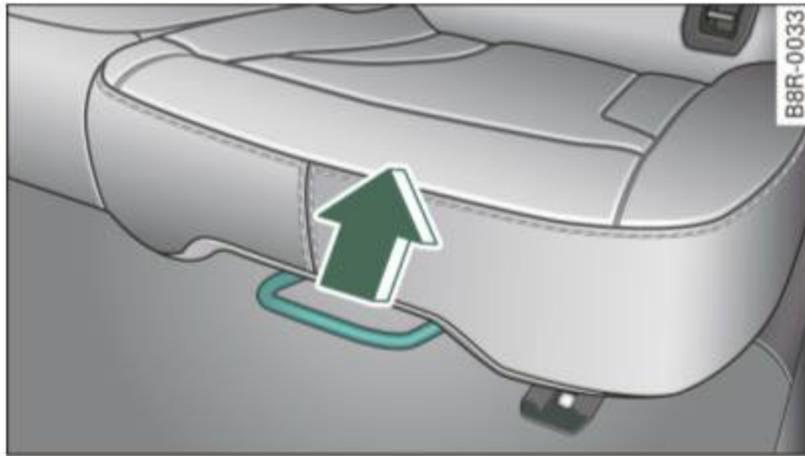

Fig. 73 Fore-and-aft adjustment
- Pull the handle up and push the seat forward or back ⇒ fig. 73.